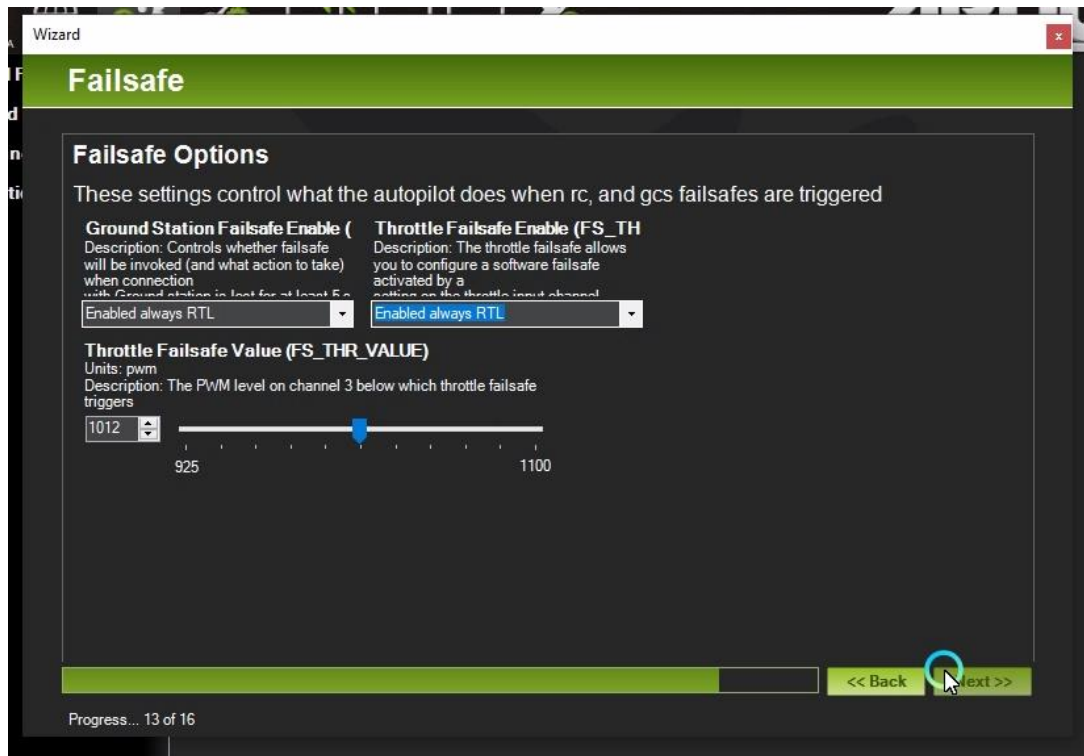

Fig.4.17
19. Now, Keep the Failsafe options to "Enable always RTL" and click Next. Refer Fig.4.17.